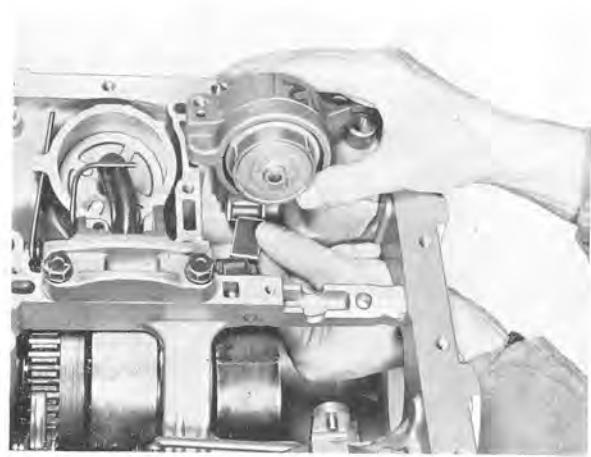

Fig. 4-106. Installing front servo and strut
10. Place the front brake band in position, see Fig. 4-106. Stick the strut to the servo lever with vaseline.